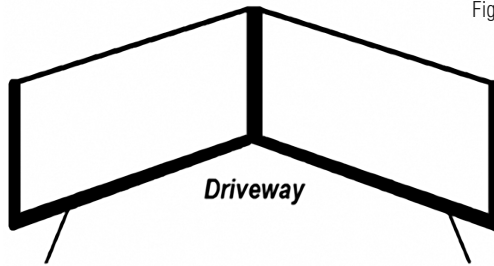

Fig. 3
- 5) Guide the Center Post into the center sleeve of the net and install the post into the Post Sleeve. **IMPORTANT:** The net side should face the street and the black sleeve should face the driveway. In addition, the black material should be at the bottom of the net, not the top (Fig 3).
11) Ensure the net is all the way to the ground, so that the black material is touching the ground or even slightly further down to create a ramp into the net (Fig 3).